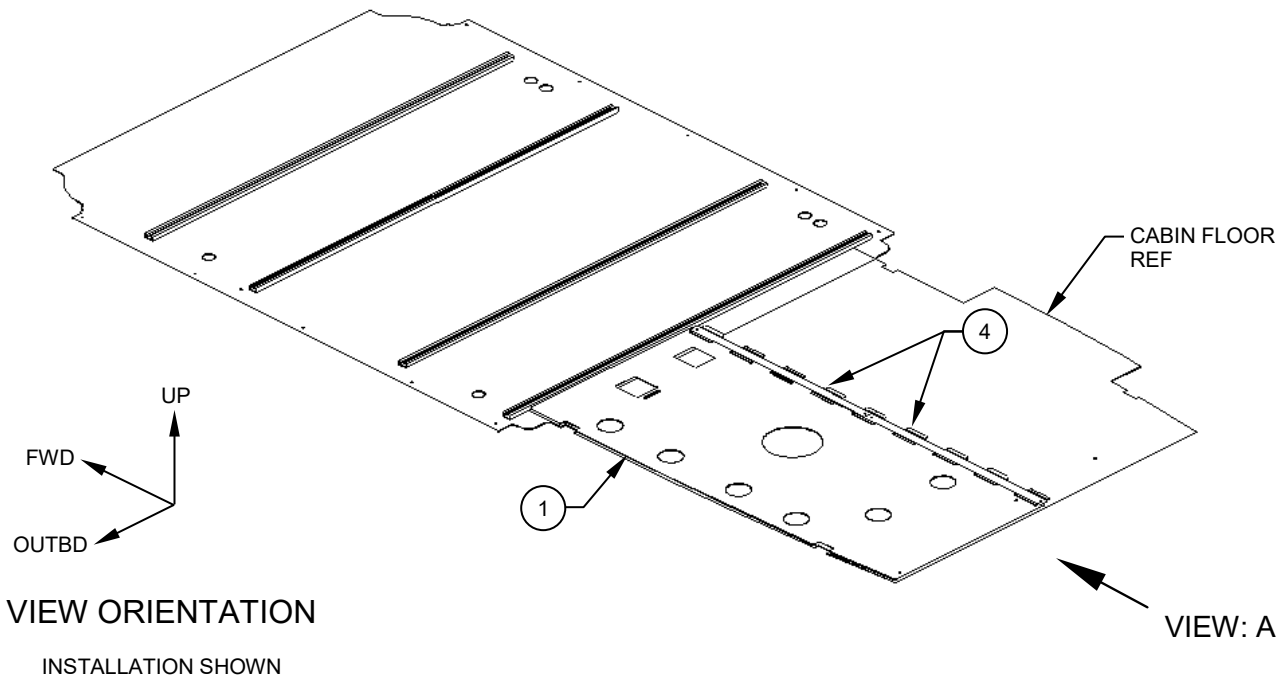

Figure 5
- Remove the LHS Panel Assy (Item 1) from the floor. Reference Figure 5.